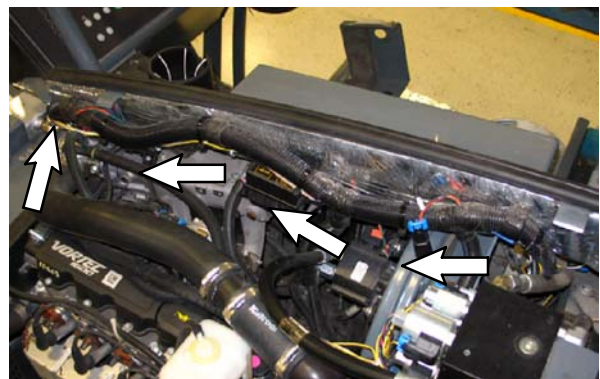

FIG. 15
54. Route the *ec-H20* harness along the bottom of the main wire harness and to the front of the machine. Refer to Fig. 15.